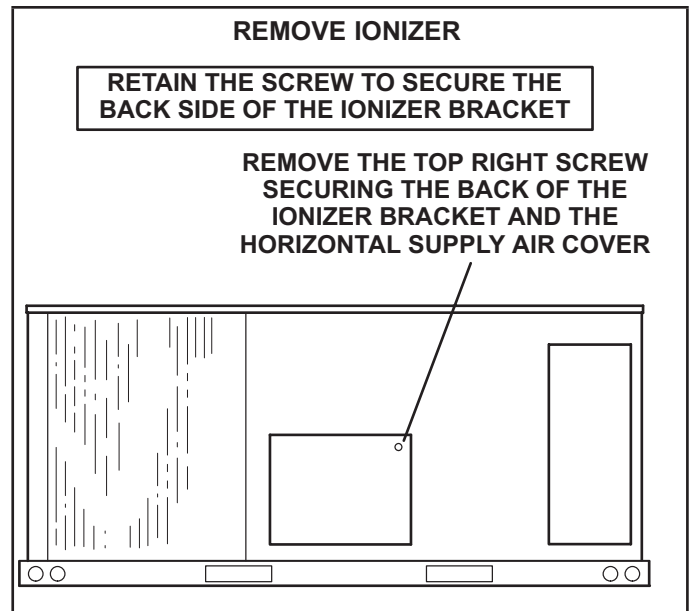

FIGURE 29
- 1 - On the back side of the unit, remove the screw securing the back of the ionizer bracket. See FIGURE 29. Retain the screw to secure the back side of the ionizer bracket.